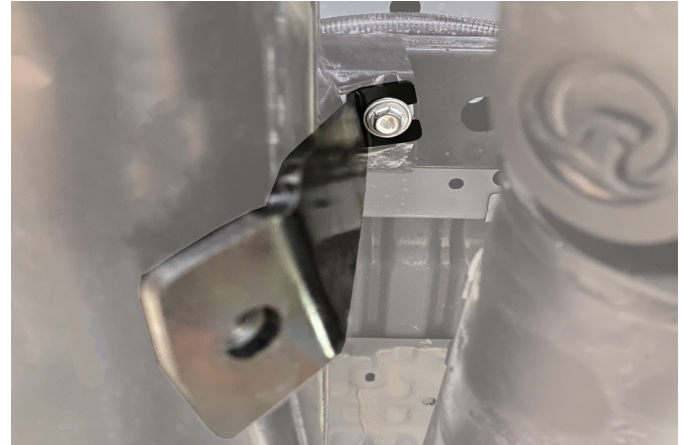

Fig. 6
6. Install the rear right bracket (item 2) and fix using OE bolt, as shown in fig.6.
10. Install the rear left bracket (item 3) and fix using OE bolt and installed bolt M10x25 (item A) and washer 10 (item B) from step 8, as shown in fig.6.